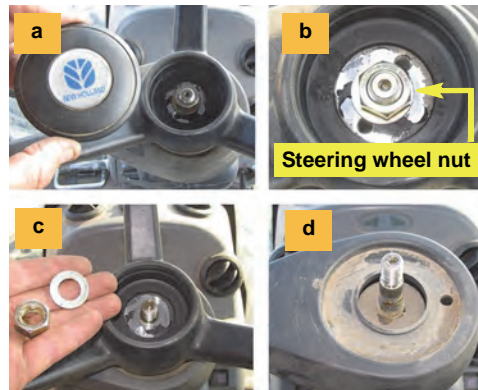

Figure 3 (a-d): Removing the steering wheel
- Pry the center cap from the steering wheel to expose the steering wheel nut (Figures 3-a and 3-b).